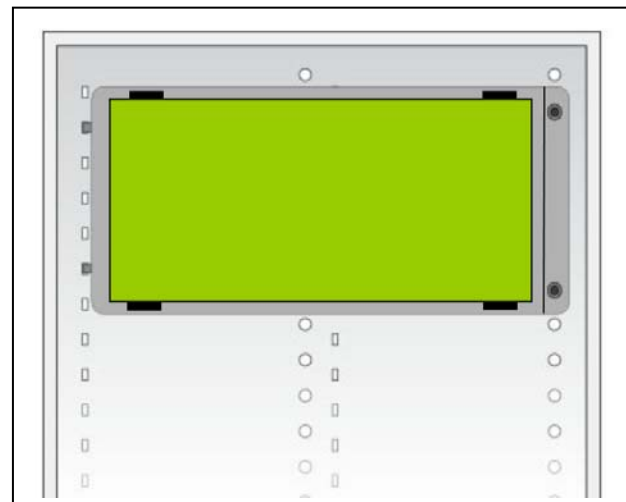

Figure 3
- a. To install the bracket in an enclosure, align and insert the stationary tabs on the left hand side of the plate into the square slots in the enclosure and use the two push-pins in the right side of the plate to secure the plate to the enclosure (see **Figure 3**).